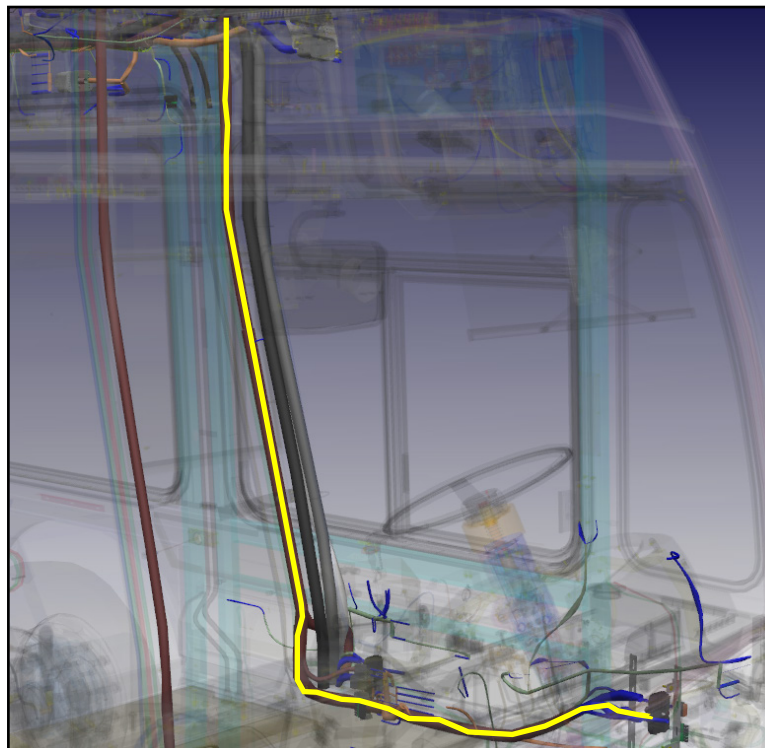

Figure 6 - WHA 01 Routing
1.12. Install the cables CAB001VAA, CAB001VAB and CAB001VAC by following the routing (see Figure 6).